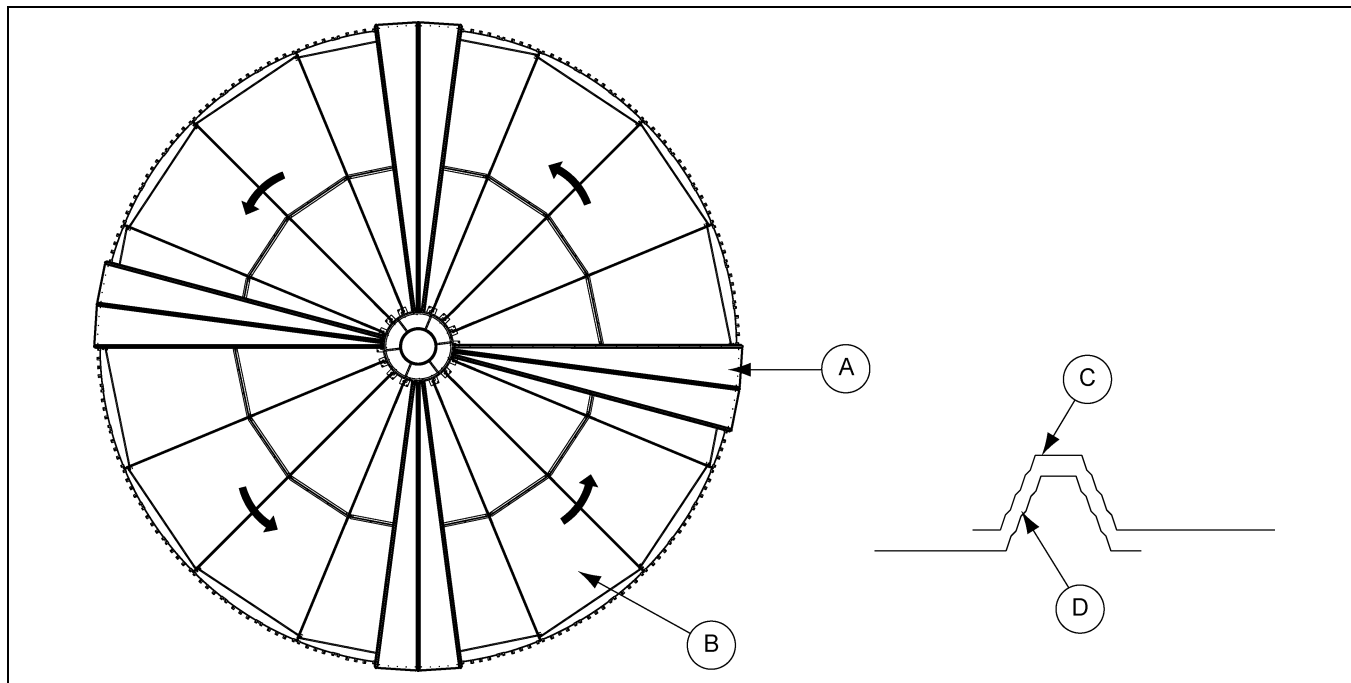

Figure 8N Roof Panel Overview
For better results and adjustment purposes, four (4) groups of two (2) roof panels (A) each are installed first, causing exposed gaps (B) between each roof panel group. (See Figure 8N.) After all roof panels (A) are installed, ensure that all installed hardware (flange bolts with sealing washers and flange nuts) are tightened to secure the roof panels.
1. Place two (2) roof panels overlapping, with the roof panel ribs resting on the rafter. Repeat the same procedure at four (4) locations as shown in Figure 8N.